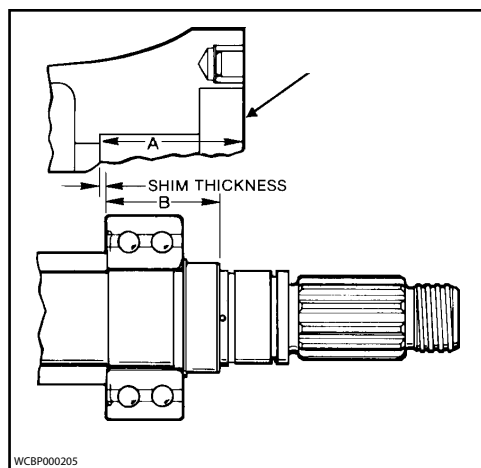

Figure 74 - Measure A and B
- If it is necessary to calculate the required shims for replacement shafts, bearings or both, refer to Figure 74; carry measurements and calculations to three decimal places (e.g., 0.059).